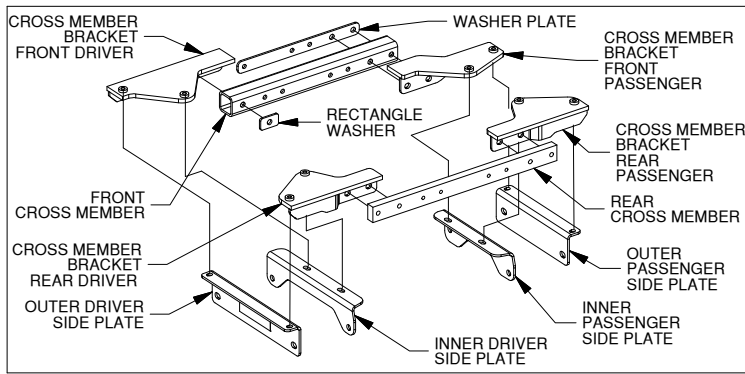
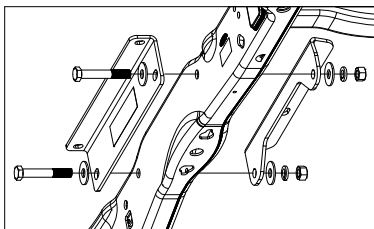
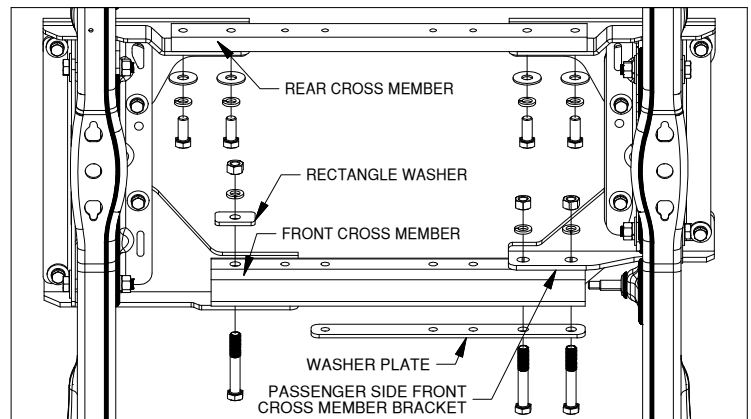

Figure B1: Side plates and Mounting Kit Exploded View
Figure B3: Driver Side Side plates
Figure B6: Bottom of truck frame looking up from the back of truck towards the cab
**3. Install Side Plates.** Locate the outer and if needed the inner side plates, see Figure B1. Install the side plates as shown in Figures B3 & B4, so that there is a side plate on the inside and outside of each frame member. Attach the side plates to the frame using 5/8" x 4" bolts, two flat washers, lock washer, and nut, as shown in Figure B3. Fasten hardware until the side plates are flush against frame.
**5. Install Cross Member Brackets.** Locate the four cross member brackets as shown in Figure B1, and the eight, 1/2" bolts with an added thread locker. Attach these brackets to the inner and outer side plates using these bolts. If the bolts with thread locker are cap screws without a flanged head, also add a flat and lock washer, see Figures B5.
**6. Install Front Cross Member.** Locate the front cross member shown in Figure B1. Inspect the front cross member tube, find the inside wall that contains the welded seam. Using the washer plate and two 5/8" X 4" bolts, attach the front cross member to the passenger side front cross member bracket so that the welded seam is positioned up against the bracket, see Figure B6. Next, attach the cross member to the driver side cross member bracket with 5/8" x 4" bolt, rectangle washer, lock washer and nut, as shown in Figure B6.
**7. Install Rear Cross Member.** Locate the rear cross member in Figure B1. Attach the rear cross member to the cross member brackets as shown in Figure B6 with 5/8" x 1-1/2" bolts, lock washers, and flat washers.